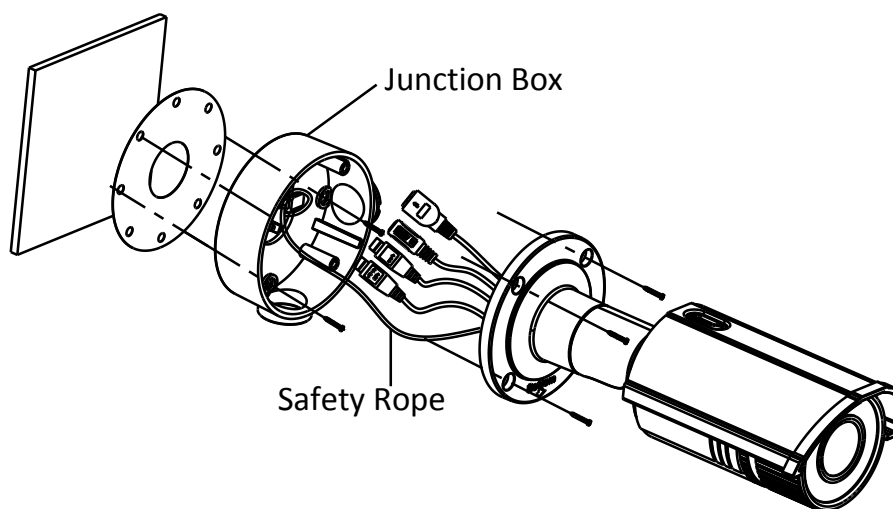

Figure 4-30 Secure the Camera
11. Hook the camera to the junction box with the safety rope. Refer to the Figure 4-30.